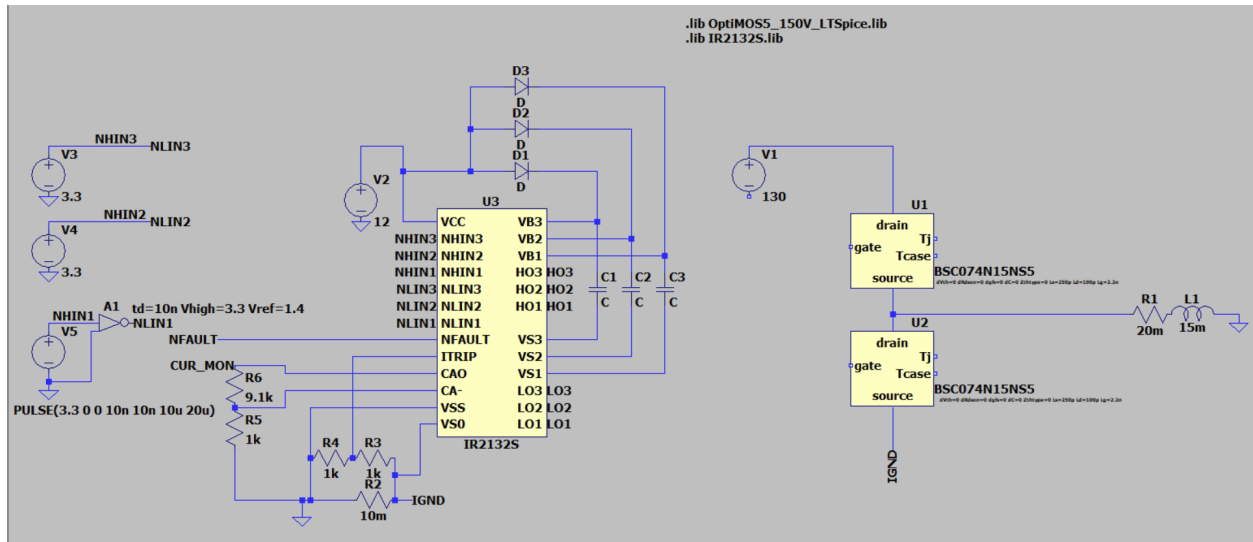

Figure 1. A simulation schematic setup for testing gate drivers.
- Testing gate drivers with transistors in LTspice (see **Figure 1**)